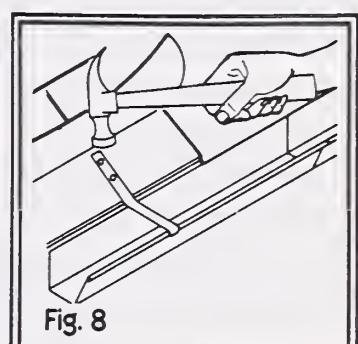

Fig. 8
10. Raise the strap to a higher position on the roof and renail it to the roof with galvanized nails (fig. 8). Make certain that the new nail is located at least $\frac{3}{4}$ inch from the old nail hole to avoid weakening the new nail hole. Cover the nailheads with a dab of asphalt cement.